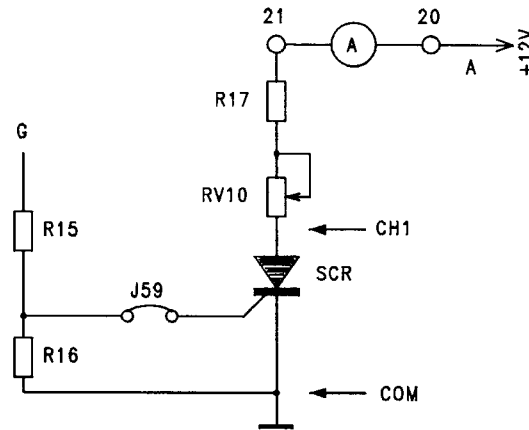

fig.B11.6
- Connect jumper J59, the ammeter and the oscilloscope to obtain the circuit of figure B11.6